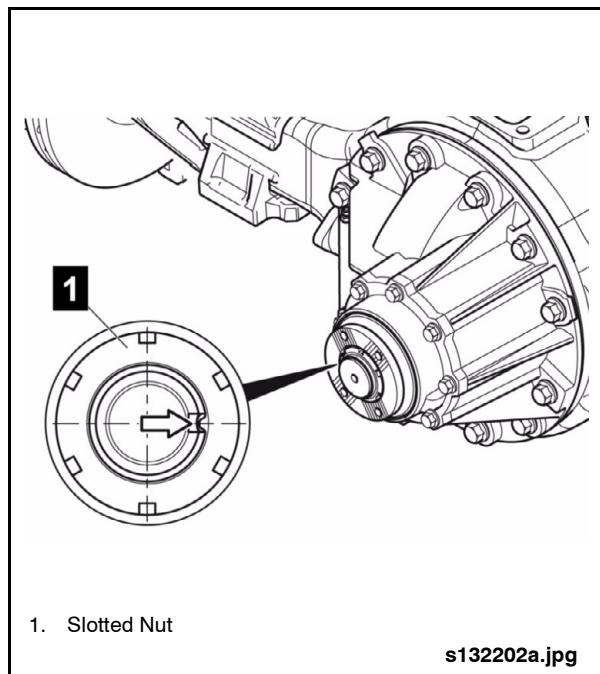

Fig. 2-31: Unlocking Slotted Nut
1. Unlock the slotted nut using a chisel or punch to bend the dimpled metal out of the slot. See "Fig. 2-31: Unlocking Slotted Nut" on page 32.